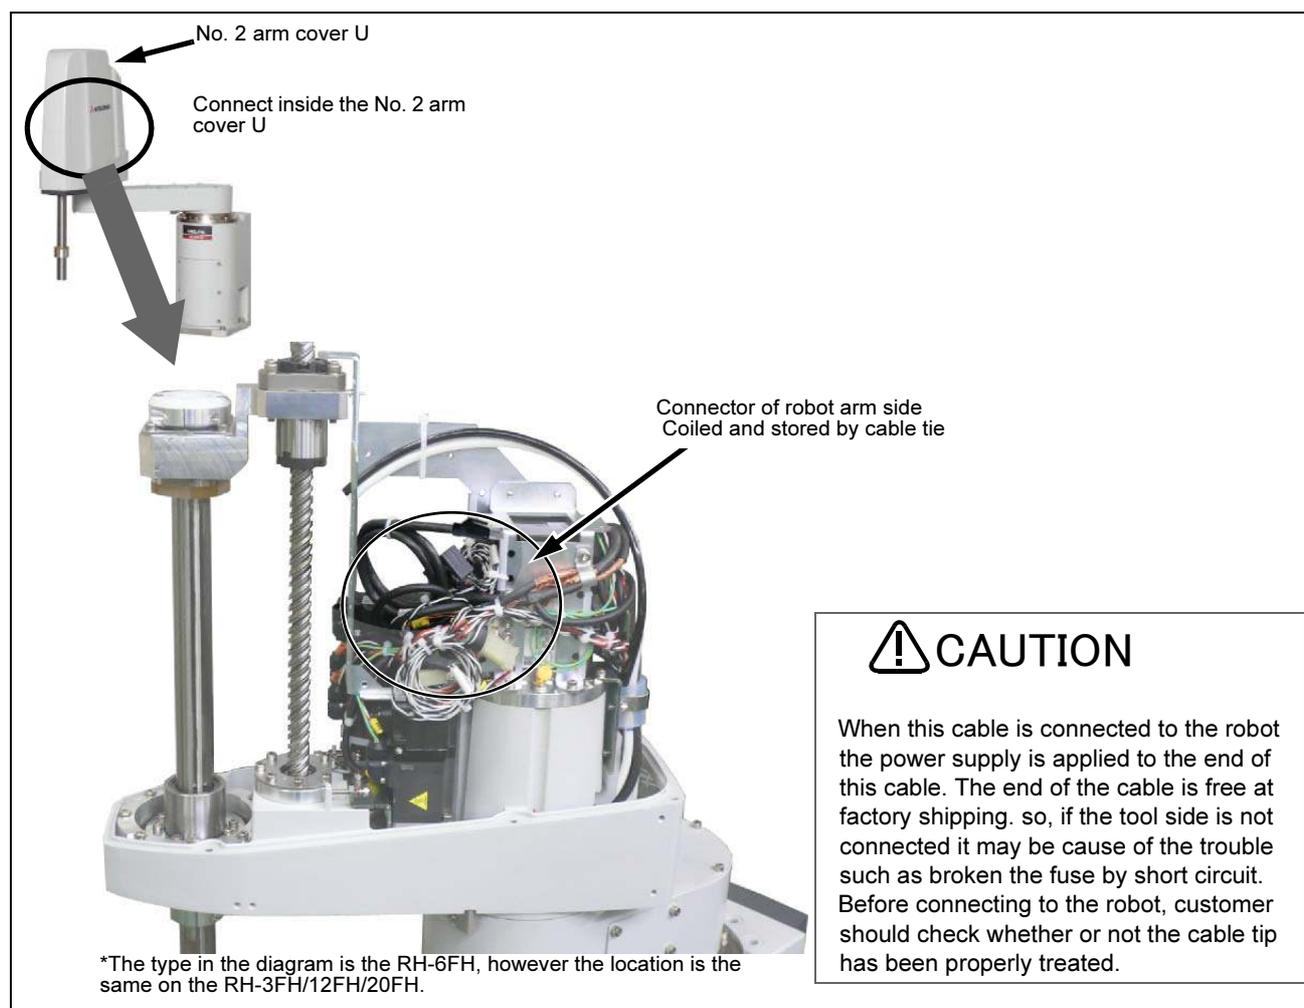

Fig.3-3 : Installing the hand input cable
Fig. 3-3 shows the hand input cable's storage location on the robot.
- 2) The hand input cable is stored in the location shown in Fig. 3-3. Remove cable tie, and check the connectors (HC1, HC2).